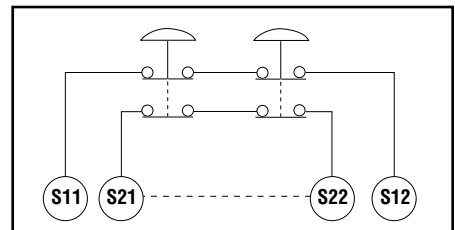
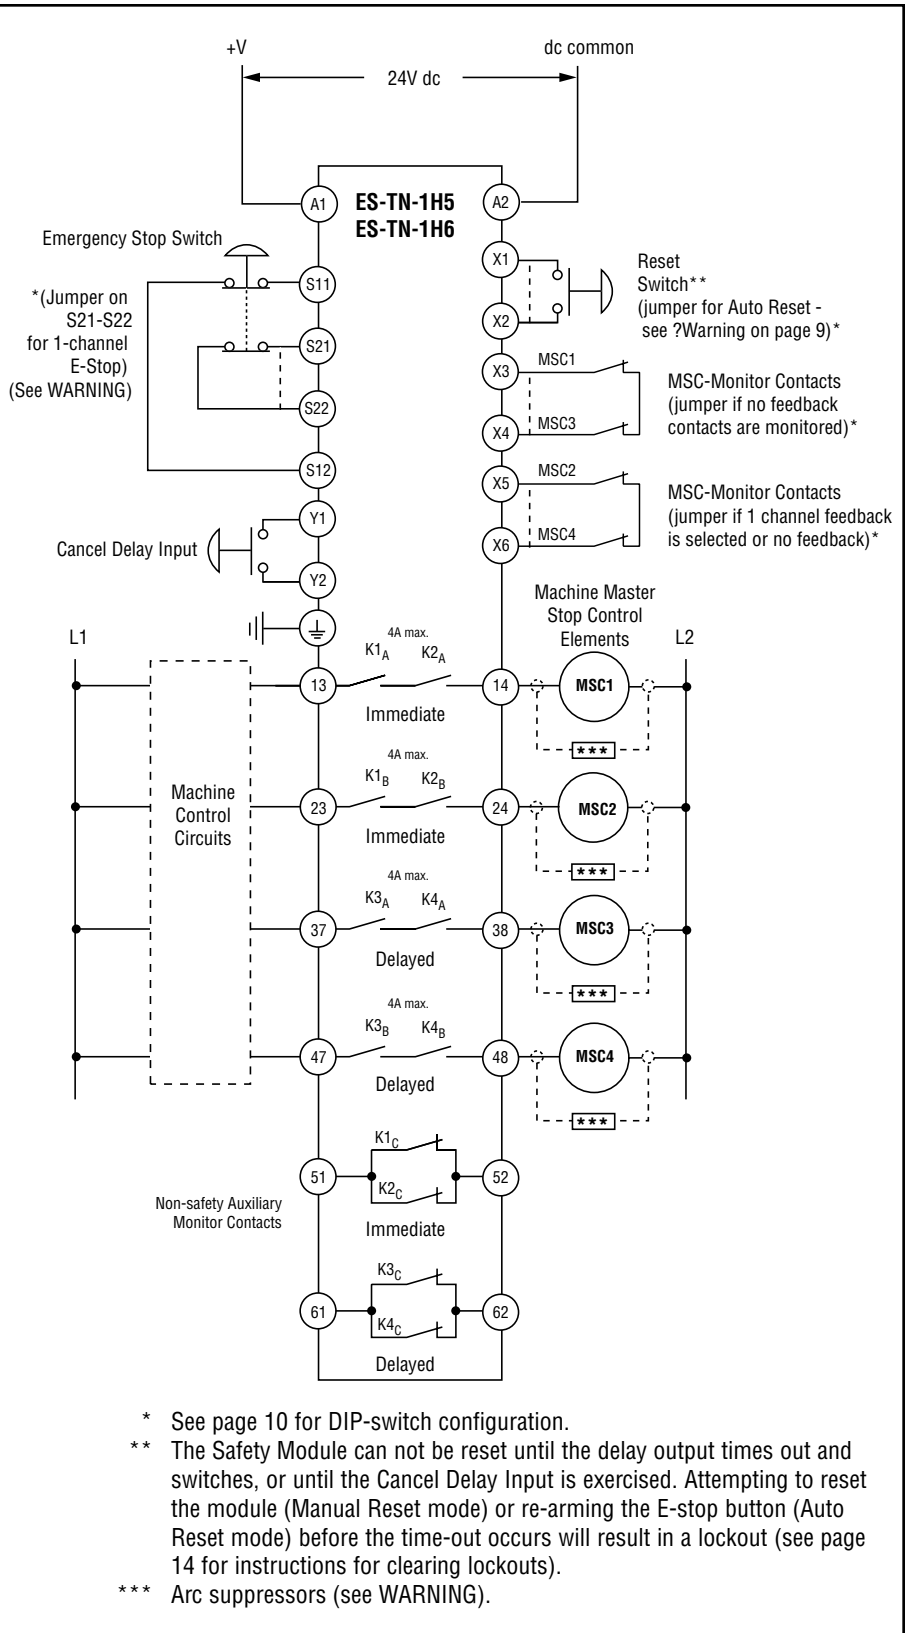
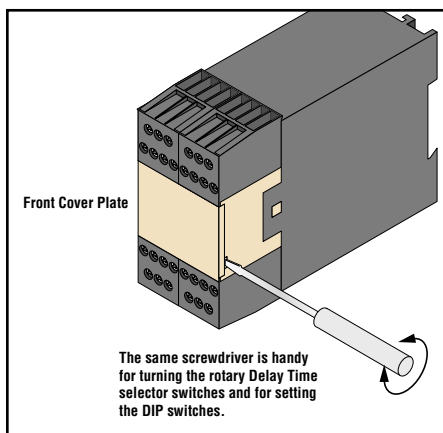
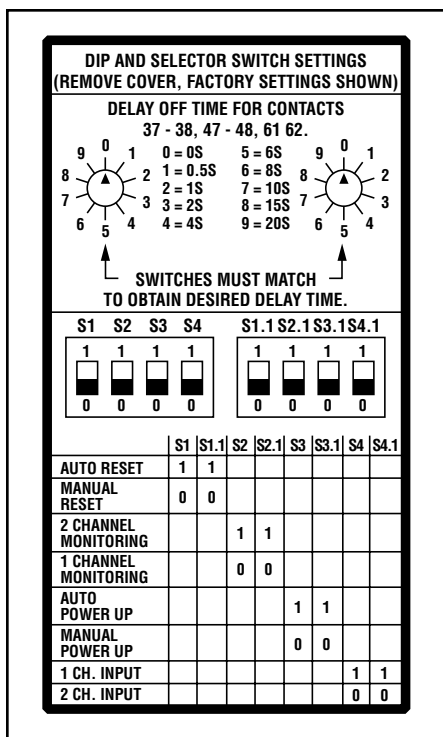

Figure 2. Series connection of multiple E-Stop switches. Jumper between S21 and S22, if 1-channel E-stop is selected.
Figure 3. E-Stop Safety Modules ES-TN-1H5 and -1H6 hookups
Figure 5. Use a screwdriver to gently pry the cover loose from the Module housing.
Figure 6. Module DIP switches and selectors, set to factory settings
The purpose of an Emergency Stop Safety Module (E-Stop Safety Module) is to increase the control reliability of an emergency stop circuit. As indicated in Figures 2 and 3, the E-Stop Safety Modules described in this document are designed to monitor a 1-channel or 2-channel E-stop switch. A 2-channel E-stop switch has two electrically isolated contacts.
The outputs of E-stop Safety Modules ES-TN-1H5 and -1H6 are two redundant normally open *immediate* safety contacts (each of which is a series of two forced-guided relay contacts, K1 and K2 in Figure 2), and two redundant normally open *delayed* contacts (also each a series of two forced-guided relay contacts, K3 and K4). The delayed contacts may be used in a functional stop Category 1 application.
As shown in Figure 2, the E-stop switch must provide one or two contacts which are closed when the switch is armed. Once activated, the E-stop switch must open all its contacts, and must be returned to the closed contact position *only* by means of a deliberate action (such as twisting, pulling, or unlocking). The switch should be a “positive-opening type,” as described by IEC947-5-1. A mechanical force applied to such a button (or switch) is transmitted directly to the contacts, forcing them open. This ensures that the switch contacts will open whenever the switch is activated. NFPA 79 section 13.2, Emergency Stop Devices, specifies the following additional switch (“stop control”) requirements:
If the Module is programmed for 1-channel E-stop (S11-S12), a jumper must be installed on the second channel (S21-S22) and configured for 1-channel input; see Figure 6.
Connect the poles of the E-stop switch as shown in Figure 3. The switch in Figure 3 is shown in the “armed” position with both contacts closed. Multiple E-stop switches connected to one E-stop Safety Module must be series connected (see Figure 2 and the warning on page 8).
The Reset Circuit switch can be any mechanical switch, such as a normally open momentary switch, or a two-position key switch. The Reset switch must be capable of reliably switching 18-30V dc at 10-25 mA. As shown in Figure 3, the Reset switch connects between terminals X1 and X2 of the Safety Module. A reset will occur after the Reset button goes from open, to closed, and back to open state.
To satisfy the requirements of Safety Category 4 of EN 954-1, the Master Stop Control elements must each offer a normally closed, forced-guided monitor contact. For **2-channel monitoring**, one normally closed monitor contact from one Master Stop Control element, controlled by one of the immediate output contacts from the E-Stop Safety Module, is wired in series to one normally closed monitor contact from one Master Stop Control element, controlled by one of the delayed output contacts from the E-Stop Safety Module, to input X3-X4. The same configuration (one immediate N.C. series connected to one delayed N.C.) is wired to X5-X6 (Figure 3). In operation, if one of the switching contacts of any Master Stop Control (MSC) element fails in the shorted condition, the associated monitor contact will remain open, making reset of the E-Stop Safety Module impossible.
There is no specific feedback input to which the immediate MSCs must be connected. However, two immediate contacts (from two MSCs) or two delayed contacts (from two MSCs) should not be connected to the same input. If **1-Channel Monitoring** is selected, input X5-X6 must be jumpered, the Module configured for 1-Channel Monitoring (see Figure 3) and all monitoring contacts must be wired in series to X3 and X4. **See 1-Channel, 2-Channel, or No External Device Monitoring on page 10 for more information.**
The hookup diagram (Figure 3) shows a generic connection of the E-Stop Safety Module's four redundant output circuits to Master Stop Control elements MSC1 through MSC4. A Master Stop Control element is defined as an electrically powered device, external to the E-Stop Safety Module, which stops the machinery being controlled by immediately removing electrical power to the machine and (when necessary) by applying braking to dangerous motion. This stopping action is accomplished by removing power to the actuator coil of any Master Stop Control Element.
The E-Stop Safety Module may be configured for Automatic Reset via two independent DIP switches, located inside the Module housing, under the front cover (see Figures 5 and 6) and by replacing the Reset switch with a jumper wire in the X1-X2 reset input circuit (see Figure 3).
If the Module is programmed for Auto Power-Up (see Figures 6 and 7), K1-K4 relays will close as soon as power is connected to A1-A2 – if the E-stop inputs S11-S12 and S21-S22 are closed, the appropriate jumpers are installed and feedback contacts X3-X4 and X5-X6 are closed, whether the Module is programmed for Auto or Manual Reset.
If 1-channel monitoring is selected (see Figure 6), one or more normally closed contacts from the MSCs must be wired to terminals X3-X4. If more than one contact is used, they must be wired in series (see Figure 3). The second channel (X5-X6) must be jumpered. The Module will reset only if both inputs are closed. After the unit is reset, the state of the X3-X4 input is irrelevant.
If 2-channel monitoring is selected (see Figure 6), the Module will check both inputs X3-X4 and X5-X6 for closed state, before a reset can occur. After the unit is reset, and during RUN mode, both inputs will be checked for matching state. In other words, if one input opens, the other input must open within 200 milliseconds.
If both pairs of output contacts (both immediate and delayed) are used, and MSCs from all four contacts are controlled (Figure 3), both an immediate MSC and a delayed MSC contact must be connected in series to each of the two feedback inputs.
The DIP switches and selector switches are located inside the Module housing, behind the front plate. Before adjusting any settings, turn OFF power to the Module. Remove the front plate by using a screwdriver in the slot on the right side and gently prying the cover away from the housing (Figure 5). Turn the rotary Delay Time selector switches to the desired position using the same small screwdriver in the slot on the arrow. Use the screwdriver blade to slide the DIP switches to their proper positions also.
The corresponding pairs of DIP switches and the two rotary Delay Time selector switches must match at all times, or a Fault condition will result. (If this occurs, turn the power OFF, adjust the pairs of switches to match, and turn the power supply back ON.) Figure 6 shows the DIP switches and Delay Time selector switches properly set for No Delay, Manual Reset, 1-Channel Monitoring, Manual Power-Up, and 2-Channel Input.
3. Remove the E-Stop Safety Module front cover, (see Figure 5).
4. Check for correct settings on the DIP switches S1-S4 and S1.1-S4.1 (see Figure 6). The related pairs of switches (S1/S1.1, S2/S2.1, S3/S3.1, and S4/S4.1) must match at all times, as must the two Delay Time selector switches (T1/T2).